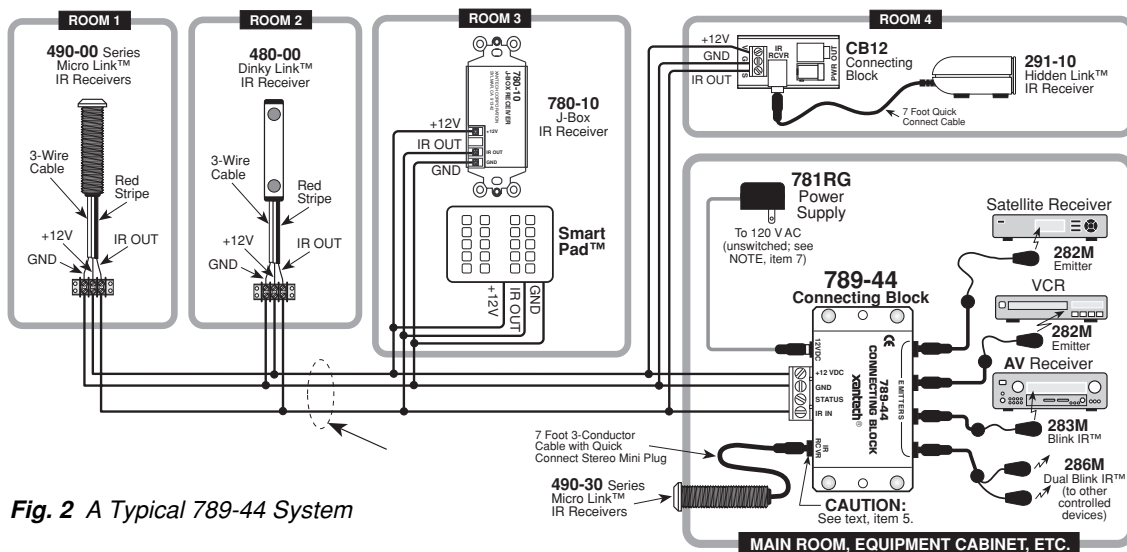
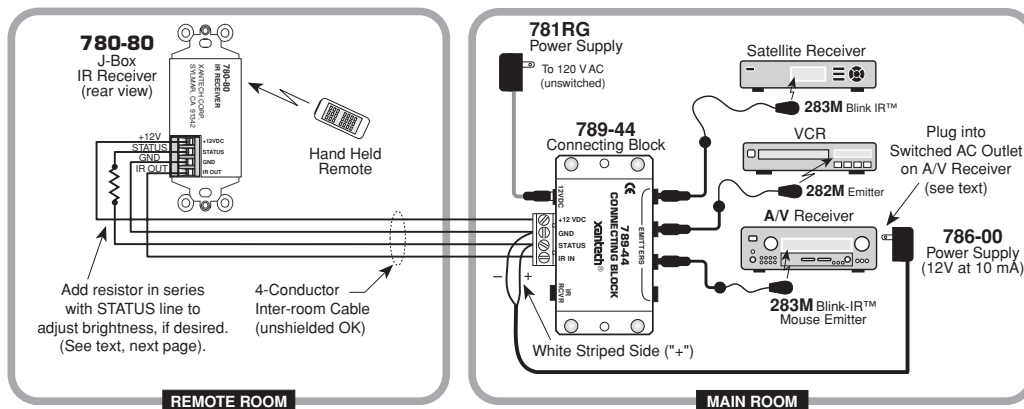

Fig. 2 A Typical 789-44 System
Fig. 3 Using the STATUS terminal in a typical system (see text, pg 4).
The Model 789-44 provides a quick low cost means of connecting Xantech IR receivers and keypads to four single or four dual emitters, with a power supply, in an infrared repeater system. It can also provide emitter expansion for various Xantech devices, such as the 590, 710, 792-10, 795-20, 796-20, etc.. The STATUS terminal provides a convenient tie point for voltage to drive the STATUS indicator on certain Xantech products, such as the 780-80 IR Receiver (refer to **Fig. 3**).
Fig. 2, illustrates a typical installation using the 789-44 in an IR repeater system. A variety of Xantech IR receivers and a keypad are shown. When configuring a system, please keep the following items in mind:
4. For clarity, connections in **Fig. 2** are shown going to a 3-conductor bus in a "daisy chain" fashion. In an actual installation, however, it is recommended that 4-conductor "home-runs" be pulled from each room to the 789-44 Connecting Block in the main room. The home-runs maintain higher power supply voltage to each IR receiver and keypad, and the extra 4th wire can be used for "STATUS" if desired (refer to **Fig. 3**).
Fig. 3 illustrates a single zone system where the Status LED on a Xantech 780-80 IR Receiver, in the remote room, shows the ON/OFF status of an A/V receiver.
4. You would then connect the 4-conductor inter-room cable between the 789-44 and the 780-80 as shown in **Fig. 3**.
5. If you wish to adjust the brightness of the Status LED, place a resistor in series with the STATUS lead as shown in **Fig. 3**. Use a value that achieves the desired brightness level (usually 1k Ohm to 10k Ohm, 1/8 watt).